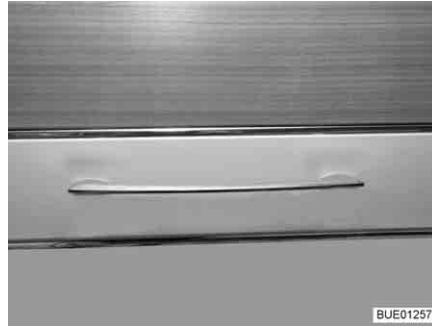

Fig. 37 Furniture flap with handle (example)
- Pull handle (Fig. 37) until furniture flap is open.